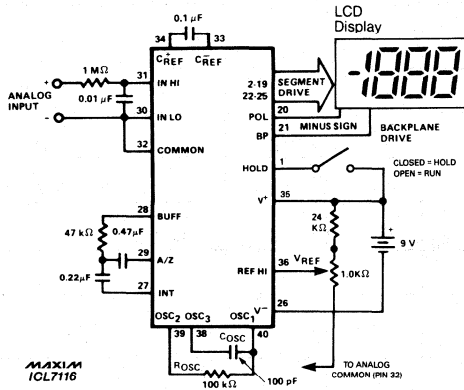

Figure 1. Maxim ICL7116 Typical Operating Circuit, 200mV Reference
**Note 3:** Unless otherwise noted, specifications apply to both the 7116 and 7117 at TA = 25°C, fclock = 48kHz. 7116 is tested in the circuit of Figure 1. 7117 is tested in the circuit of Figure 2.
(V+ = 9V; TA = 25°C; fCLOCK = 48kHz; test circuit - Figure 1 (ICL7116), Figure 2 (ICL7117) unless noted)
**Note 7:** Test condition is VIN applied between pins IN-HI and IN-LO. i.e., 1MΩ resistor in Figures 1 and 2.
**Note 11:** 1MΩ resistor is removed in Figures 1 and 2.
however, the display latch pulse is inhibited, and the display latches are not updated. The Hold input has a 70 kilohm pulldown resistor to Test (ICL7116) or Ground (ICL7117) and the Hold input will be pulled low if it is left open. When Hold is low the ICL7116/ICL7117 updates the display at the end of each conversion. The Hold input is CMOS compatible, and can also be driven by a switch connected to  $V^+$  (Figure 1 and 2) or by a PNP transistor.